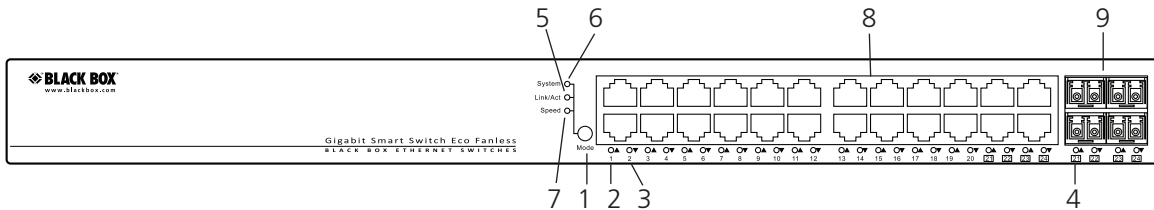

Figure 2-3. LGB2124A front panel.
Figures 2-3 and 2-4 show the front and back panels of the switch. Table 2-4 describes its components. Table 2-5 describes the LEDs in detail.
*Not shown in Figure 2-3 or 2-4.